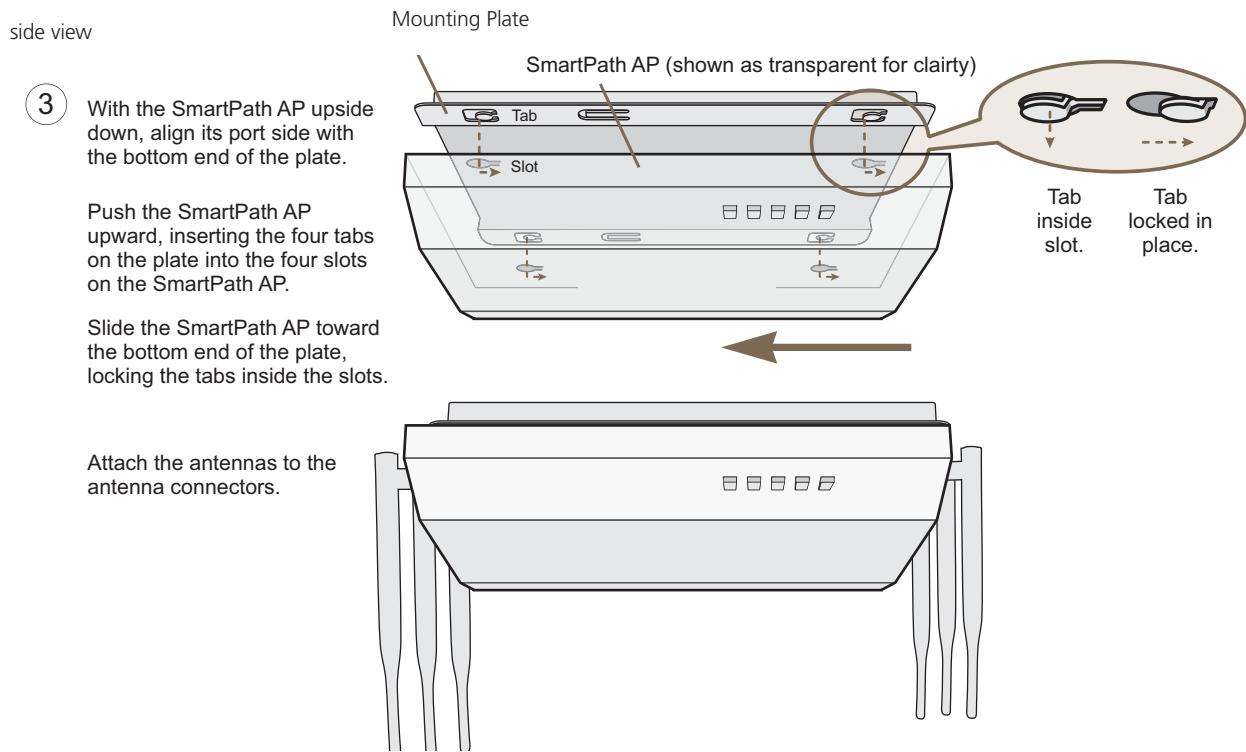

Figure 3-16. Attaching the SmartPath AP to the mounting plate.
3. Attach the SmartPath AP to the mounting plate, and then attach the antennas to the connectors (see Figure 3-16).